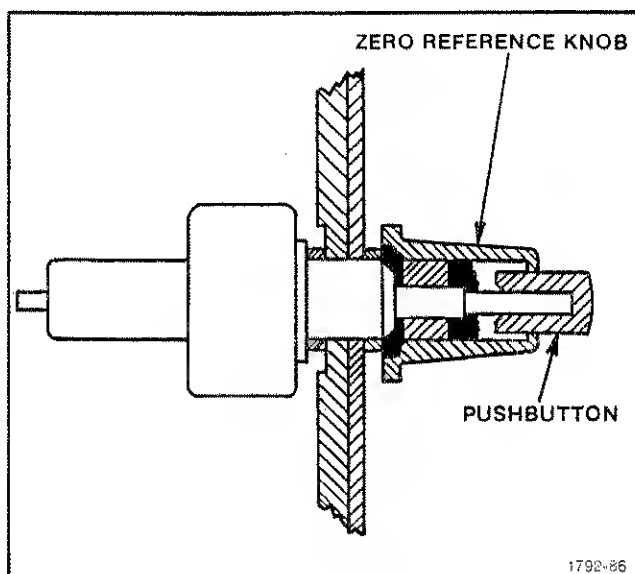

Fig. 5-33. Installation of knob on ZERO REFERENCE control.
2. Assemble the knob and pushbutton on the control shafts as shown in Fig. 5-33.